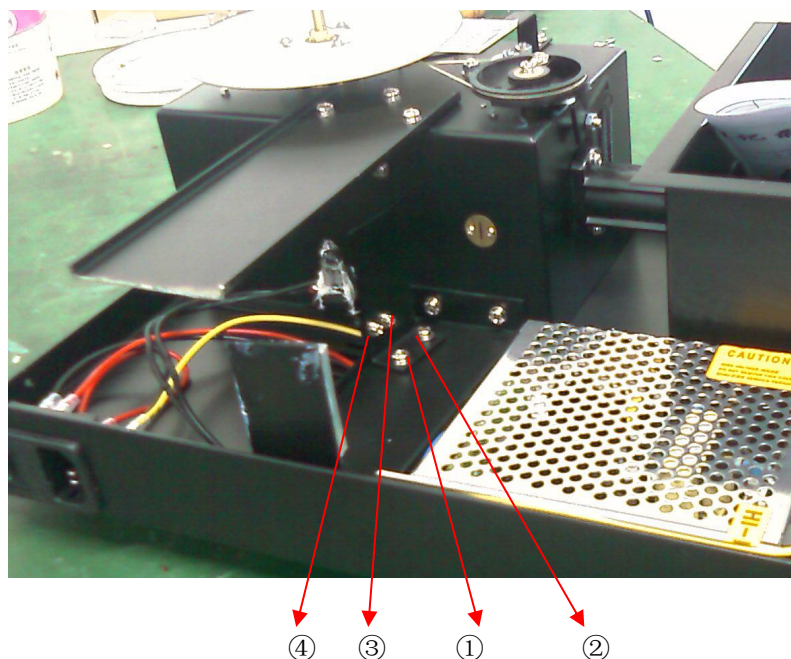

Fig. 2-2
- 7) Set the wavelength of the instrument at 500nm, Switch on the power, move the lamp up and down and from side to side, until its focus falls exactly on the entrance slit. Observe the reading in T mode without adjusting the ▽/0Abs/100%T key, Readjust the lamp to make the reading at its maximum. If it can not focus on the center of the entrance slit, you have to adjust the four screws in Fig.2-2. No.3 & 4 for the height of the light beam while No.1 & 2 for the horizontal adjustment.